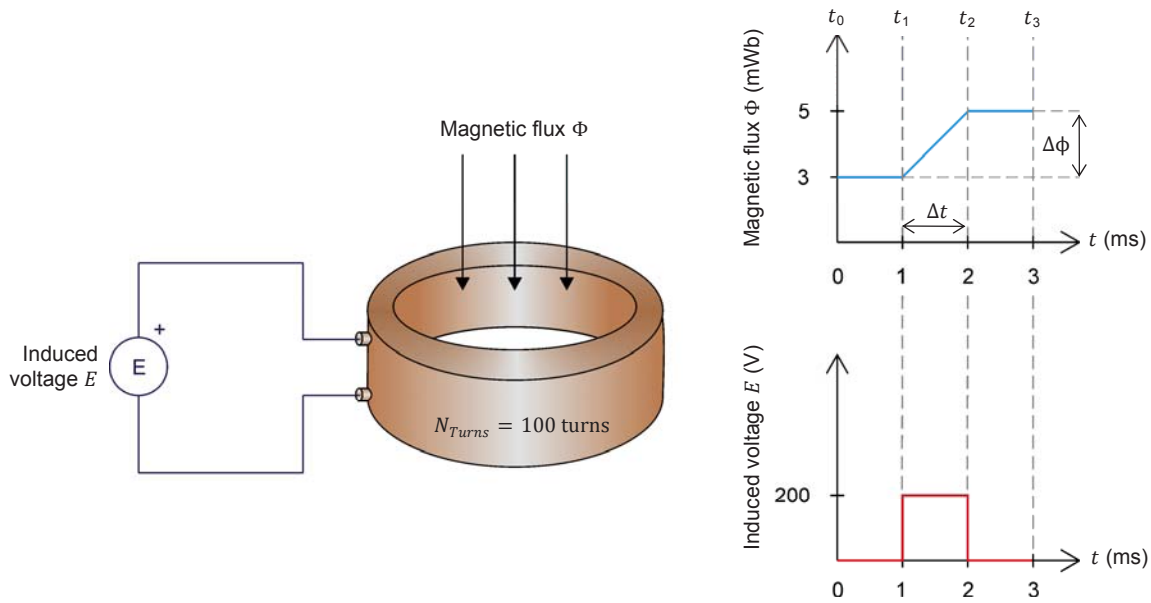

Figure 19. Voltage induced in a loop exposed to a magnetic flux varying in intensity.
Figure 19 gives an example of the voltage induced across a wire loop that is exposed to a magnetic flux varying in intensity. Between instants  $t_0$  and  $t_1$ , the intensity of the magnetic flux  $\phi$  remains constant (3 mWb), and thus, the induced voltage is zero. Between instants  $t_1$  and  $t_2$ , the intensity of the magnetic flux  $\phi$  increases at a constant rate, and thus, a constant voltage is induced in the wire loop. Between instants  $t_2$  and  $t_3$ , the intensity of the magnetic  $\phi$  flux remains constant (5 mWb), and thus, the induced voltage is zero.
Using the values given in Figure 19, the voltage  $E$  induced across the coil between instants  $t_1$  and  $t_2$  can be calculated by using Equation (7):